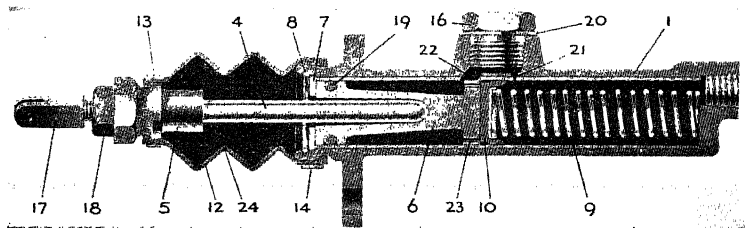

FIG. 22.—Master cylinder for Goodyear airplane brake.
**Goodyear Master Cylinders.**—As control of an airplane on the ground requires separate or divided wheel control, a master cylinder is used for each wheel (Fig. 22). These master cylinders are designed for aircraft use and made of special lightweight alloys. They are known as barrel type, compensating master cylinders and three sizes are available: 1 in., 1½ in., and 2 in. I.D.